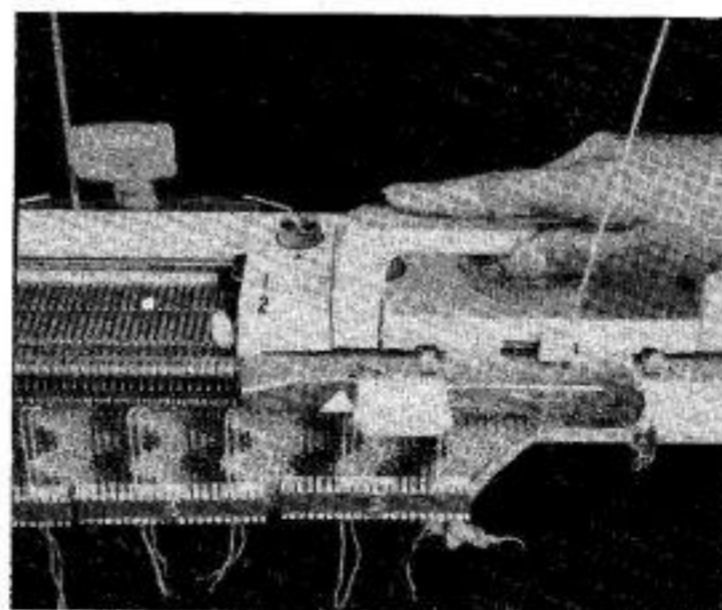

Fig. 71
- (i) Hook each strand onto its adjacent needle **on the right** and continue to knit until the 11th row. (Fig. 71)